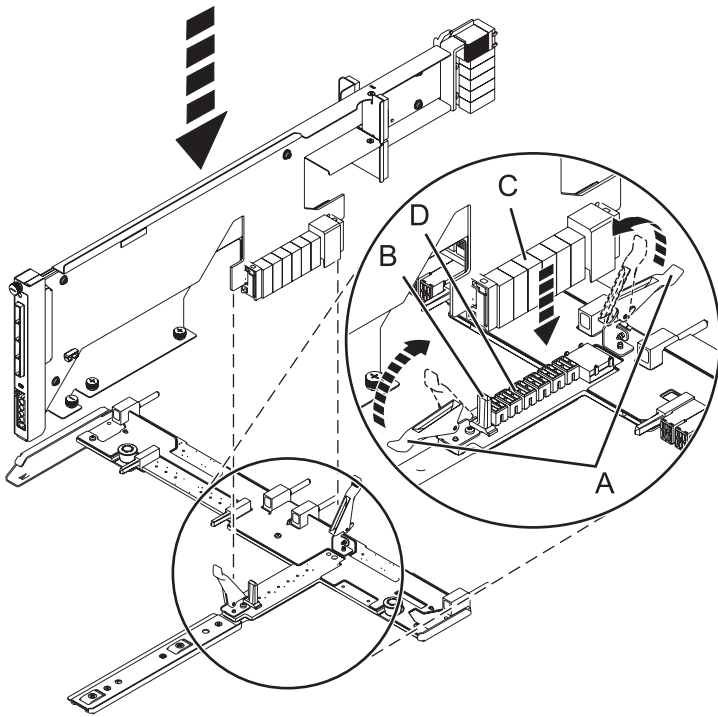

Figure 87. Installing the SAS conduit card into the midplane
- a. Place the card connector (C) on the midplane connection (D) using the guide track (B) to ensure a good connection.
- b. Lift the handle (A) to seat and secure the SAS conduit card to the midplane as shown in Figure 87 on page 120.